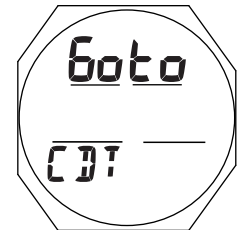

Fig. 6 - CDT LEAD-IN
**CDT Lead-in**, information includes (Fig. 6):